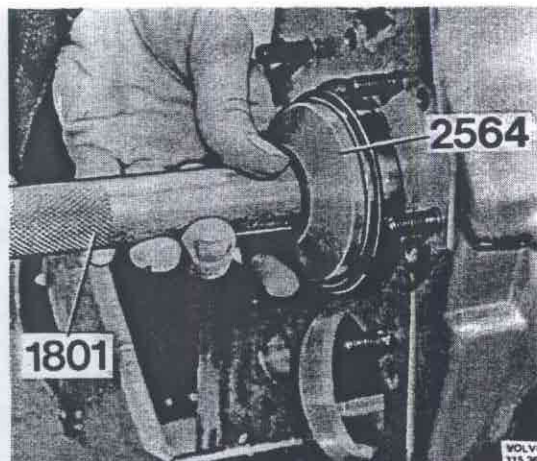

Fig. 43-100. Driving in outer race
2. Place the circlip on the bearing for the output shaft. Drive the bearing into the housing with 2564 + 1801, Fig. 43-100.